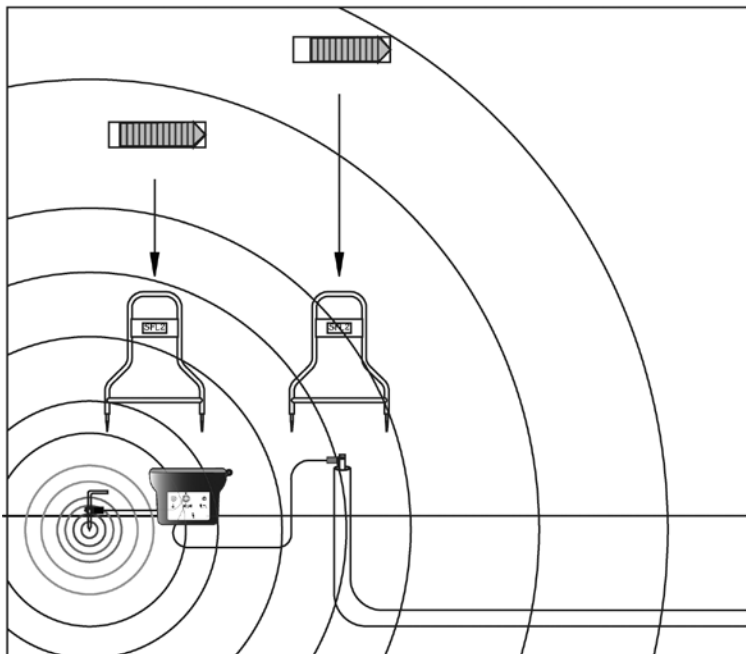

Figure 7-1: Synchronizing the A-5000
5. If the arrow points towards the ground spike, there is no fault. Recheck the grounds and connections if a fault is wrongly given. See Figure 7-1.